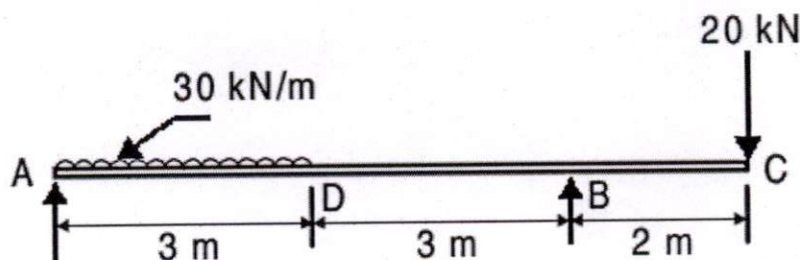

Fig.2
b) The overhanging beam ABC is supported at A and B, the span AB being 6 m. The overhang BC is 2 m (see Fig.2). It carries a uniformly distributed load of 30 kN/m over a length of 3 m from A and concentrated load of 20 kN at free end. Draw SF and BM diagrams. Indicate the salient points. 8M